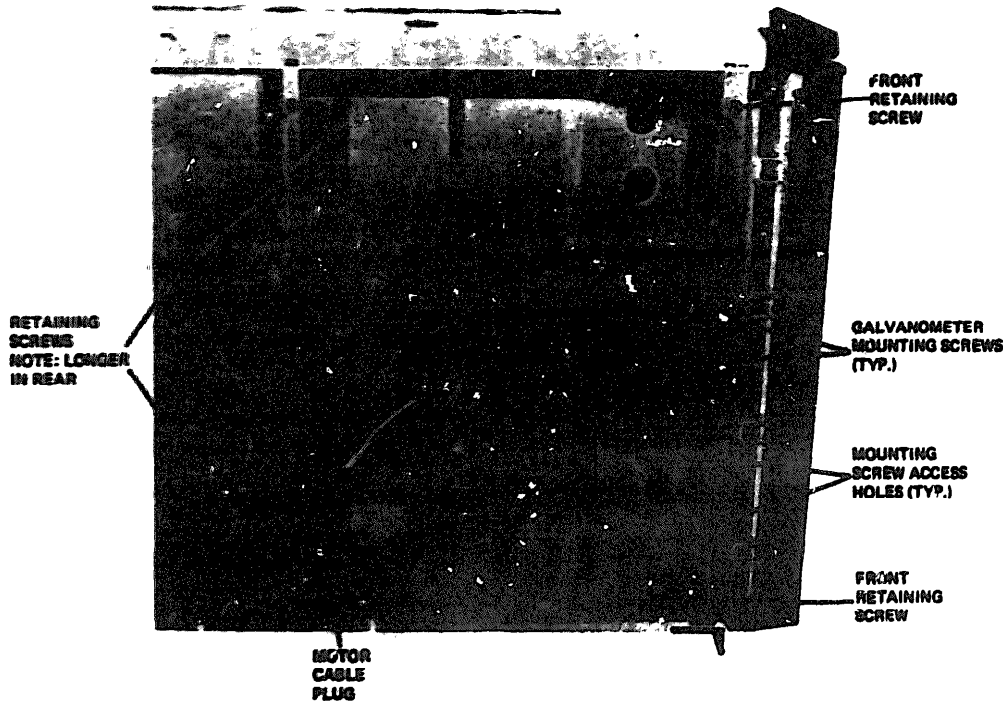

Figure 5-13. Drive Unit and Galvanometer Mounting Screws
b. With a long Pozidriv® screwdriver, loosen 2 galvanometer hold-down screws (Figure 5-13) in each misaligned channel just enough so galvanometer can be moved backward with adjustment screw, or pulled forward by hand.
- Pass a screwdriver up through galvanometer mounting screw access holes (Figure 5-13) and unfasten two galvanometer mounting screws. Remove timing sync set screw (Figure 5-10).